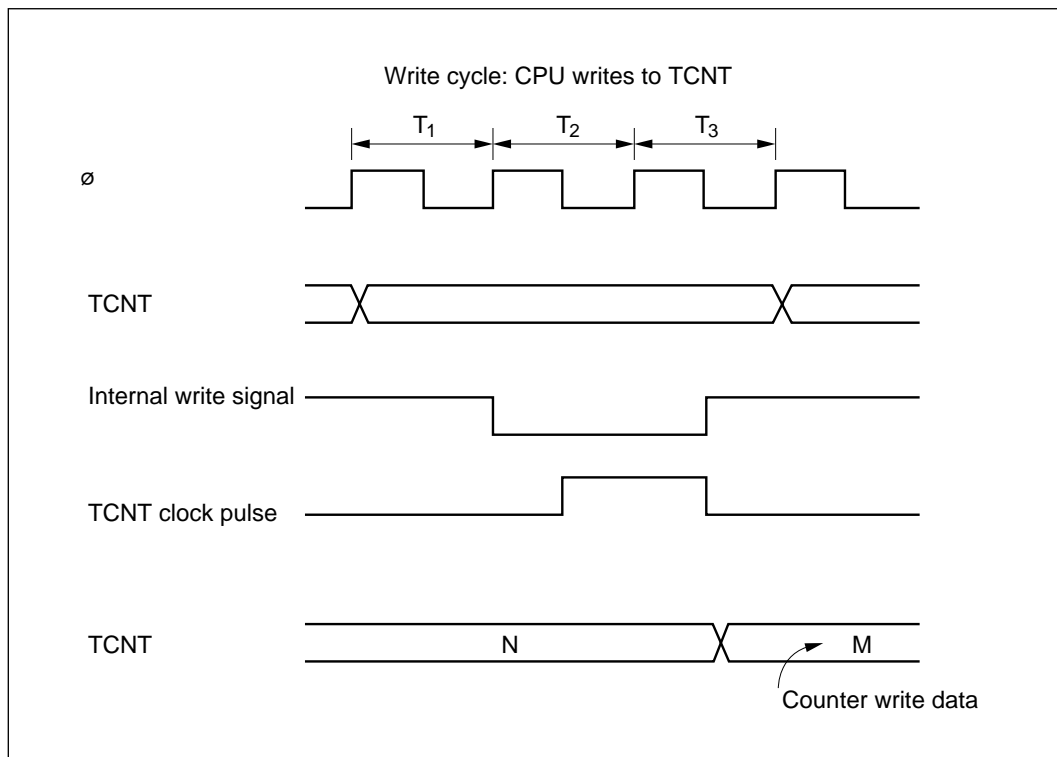

Figure 13-8 Contention between TCNT Write and Increment
(1) Contention between Timer Counter (TCNT) Write and Increment: If a timer counter clock pulse is generated during the T_3 state of a write cycle to the timer counter, the write takes priority and the timer counter is not incremented. See figure 13-8.